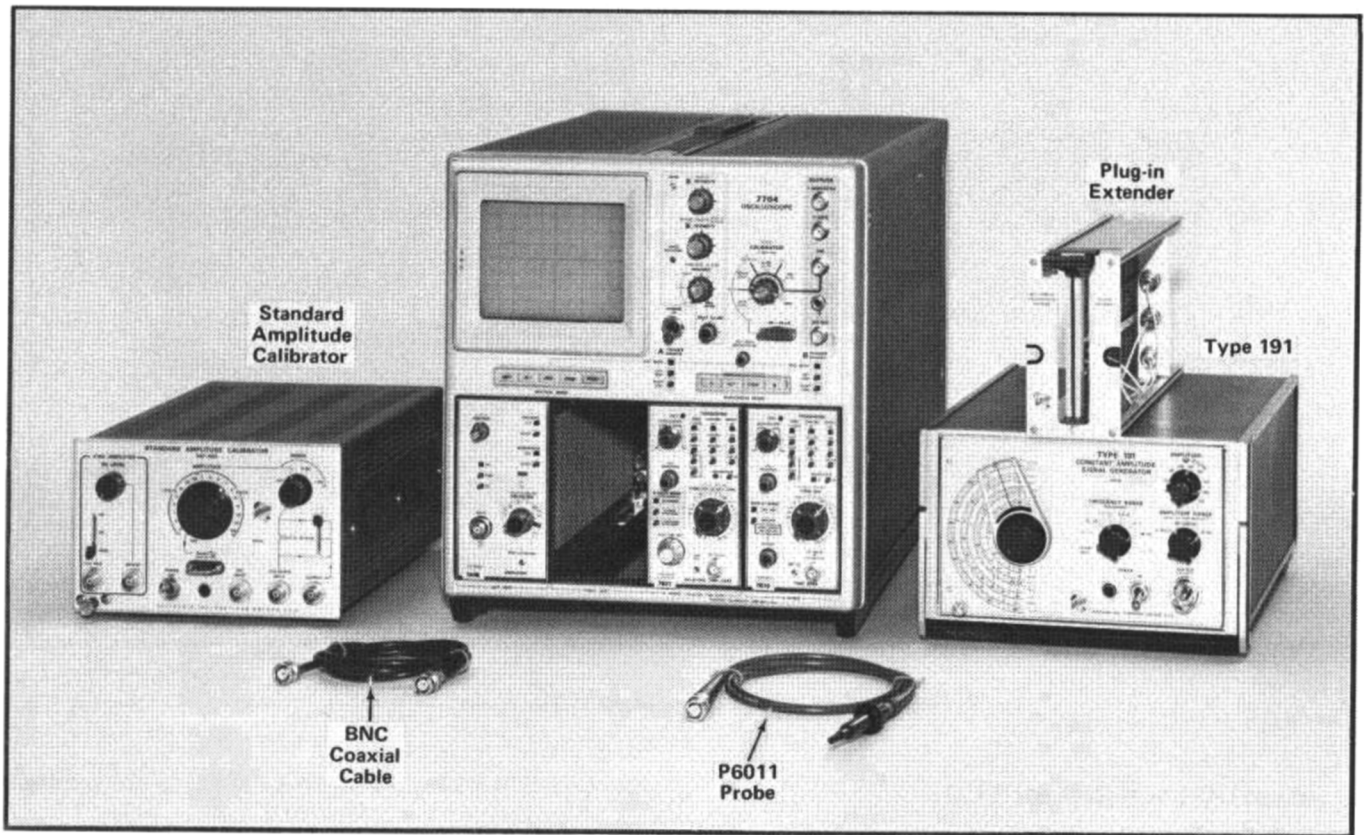

Fig. 5-1. Test equipment required for steps 1 through 11.
1. Adjust Upper Position Slope P-P AUTO Level (R251) ①
a. Test equipment required is shown in Fig. 5-1.